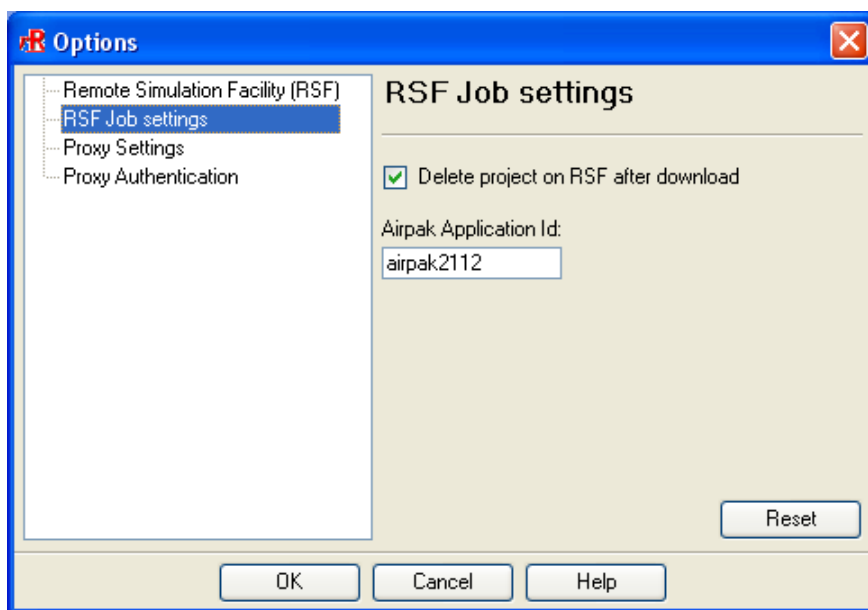

Figure 27.11.27: The RSF Job settings Panel
Note that if you don't specify that the RSF project be automatically deleted after download, then you can subsequently log on to the RSF site (<https://rsolve.fluent.com/fluent/jsp/index.jsp>) using your UserID and password, and manually delete the project. If you want **Airpak** to always delete files after download, you can save this preference in the **RSF Job Settings** panel. See Figure 27.11.27 for details.
- ii. Select the **RSF Job settings** node from the tree (Figure 27.11.27) to set the RSF job settings. Select **Delete project on RSF after download** to delete the project and all its associated files on the RSF after the solution is completed and the results are successfully downloaded.